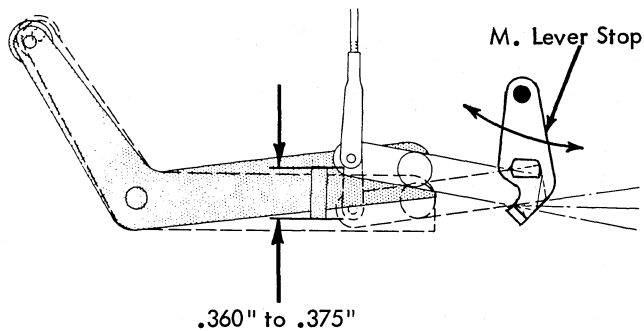

FIGURE 151. Multiplier Lever Stop (New Style)
2. Multiplying Lever Stop (Fig. 151) - Adjust the multiplying lever stop front or rear to produce .360" to .375" (approximately 3/8") motion to the index link when the carrier return/index cam is operated to its high point (platen removed).